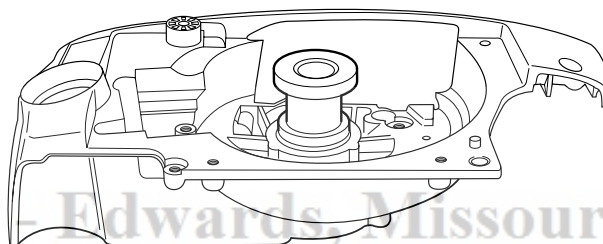

Fig. 10
2. When fitting new seals the sealing surfaces should be greased in. When fitting the seal on the flywheel side use tool 502 50 30-17. The seal on the clutch side is fitted in the ball bearing. See fig. 10.